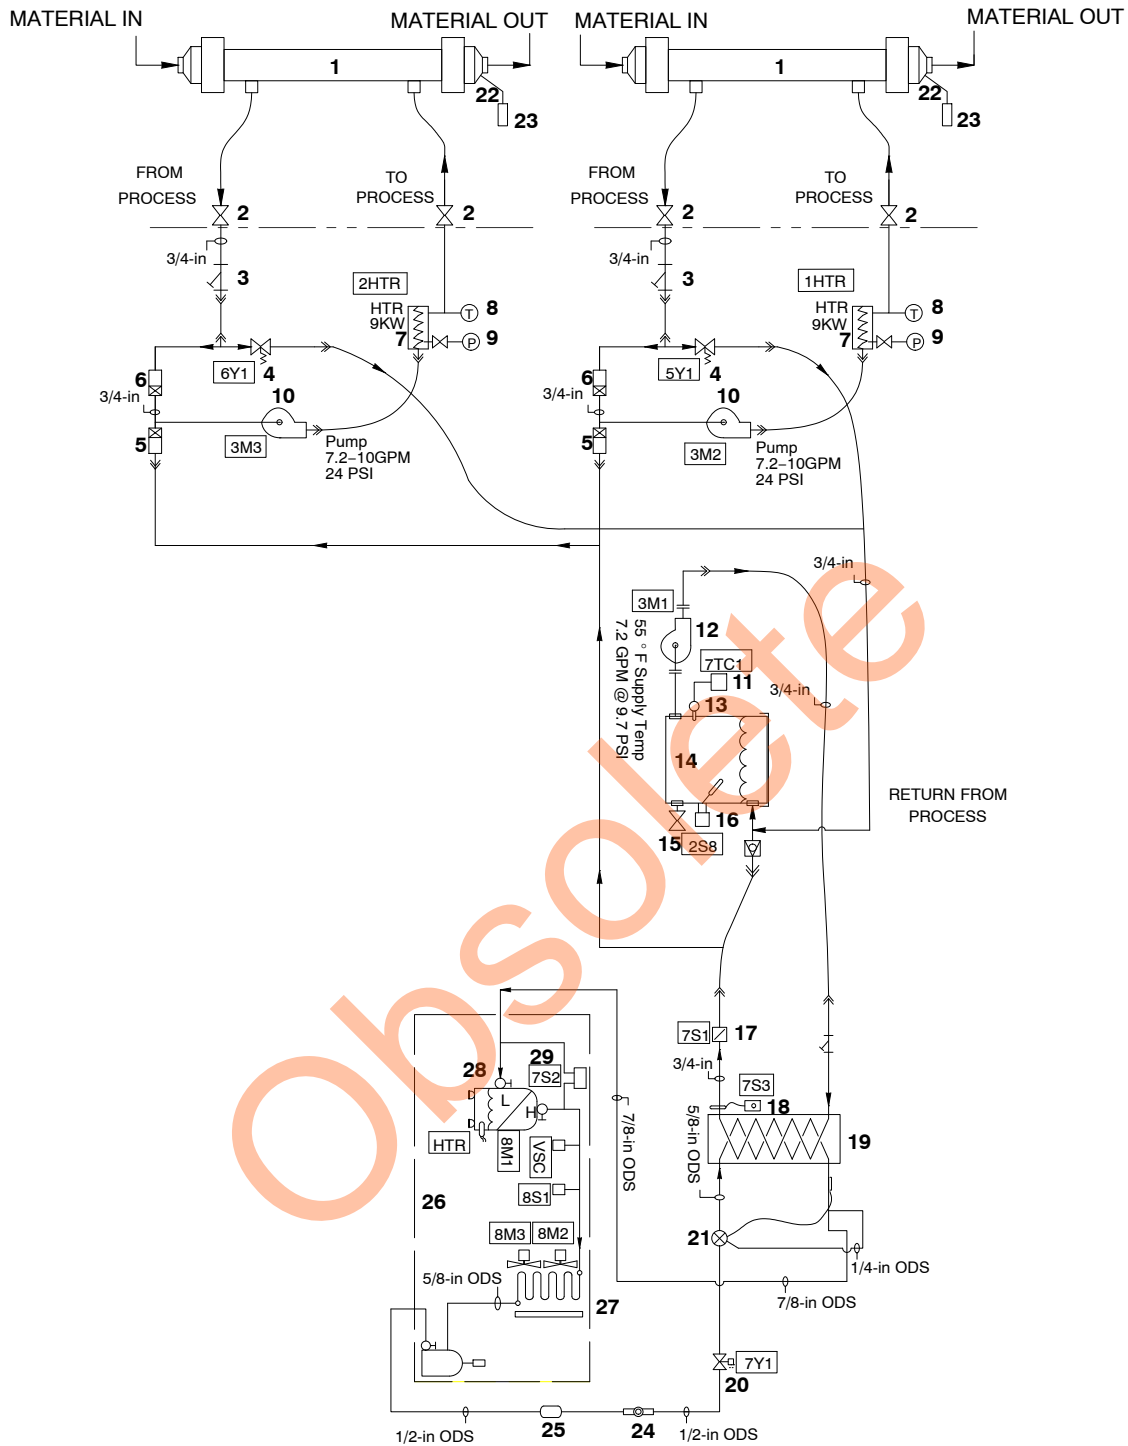

Figure 1 Temperature Control Unit Diagram
See Figure 1. The temperature controller contains a process water loop and a chilled water loop.
See Figure 1. The chilled water pump runs continuously. An RTD temperature sensor (13) senses the reservoir (14) water temperature and sends a temperature signal to the chiller controller (11). The water temperature is displayed as the Process Value (PV). The setpoint is preset to 13 °C (55 °F) and is displayed as the Setpoint Value (SV).